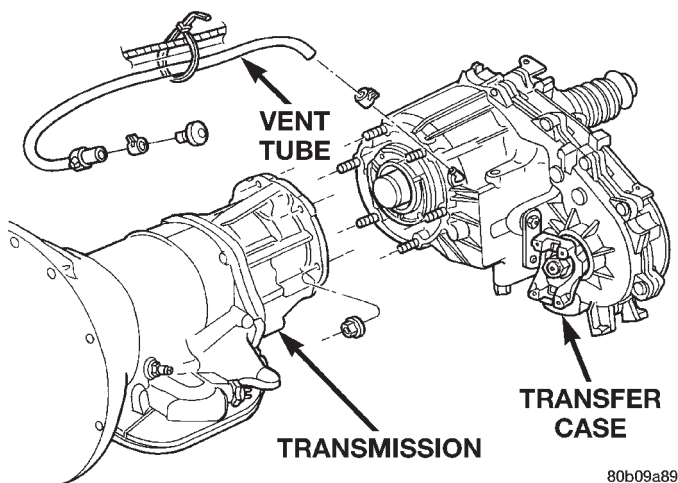

Fig. 2 Transfer Case Mounting
- (1) Shift transfer case into Neutral.
- (2) Raise vehicle.
- (3) Drain transfer case lubricant.
- (4) Mark front and rear propeller shaft yokes for alignment reference.
- (5) Support transmission with jack stand.
- (6) Remove rear crossmember, or skid plate.
- (7) Disconnect front/rear propeller shafts at transfer case.
- (8) Disconnect vehicle speed sensor wires.
- (9) Disconnect transfer case linkage rod from range lever.
- (10) Disconnect transfer case vent hose (Fig. 2) and indicator switch harness, if necessary.
- (11) Support transfer case with transmission jack.
- (12) Secure transfer case to jack with chains.
- (13) Remove nuts attaching transfer case to transmission.
- (14) Pull transfer case and jack rearward to disengage transfer case.
- (15) Remove transfer case from under vehicle.
- (1) Mount transfer case on a transmission jack.
- (2) Secure transfer case to jack with chains.
- (3) Position transfer case under vehicle.
- (4) Align transfer case and transmission shafts and install transfer case on transmission.
- (5) Install and tighten transfer case attaching nuts to 35 N·m (26 ft. lbs.) torque (Fig. 2).
- (6) Connect vehicle speed sensor wires, and vent hose.
- (7) Connect indicator switch harness to transfer case switch, if necessary. Secure wire harness to clips on transfer case.
(8) Align and connect propeller shafts. Refer to Group 3, Differential and Driveline, for proper procedures and specifications.
(9) Fill transfer case with correct fluid. Check transmission fluid level. Correct as necessary.
(10) Install rear crossmember, or skid plate. Tighten crossmember bolts to 41 N·m (30 ft. lbs.) torque.
(11) Remove transmission jack and support stand.
(12) Connect shift rod to transfer case range lever.
(13) Adjust transfer case shift linkage.
(14) Lower vehicle and verify transfer case shift operation.